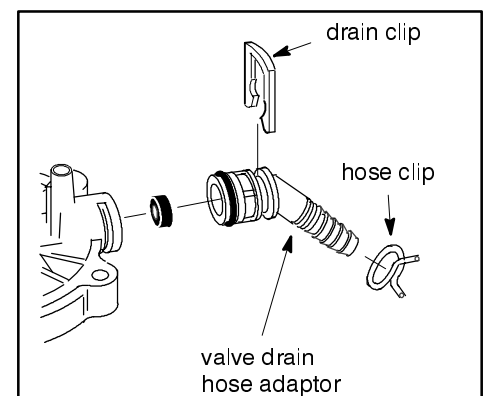

Figure 6
12. Using a needle nose pliers, lift up on drain clip and remove valve drain hose adapter from valve. Set aside. **Figure 6.**